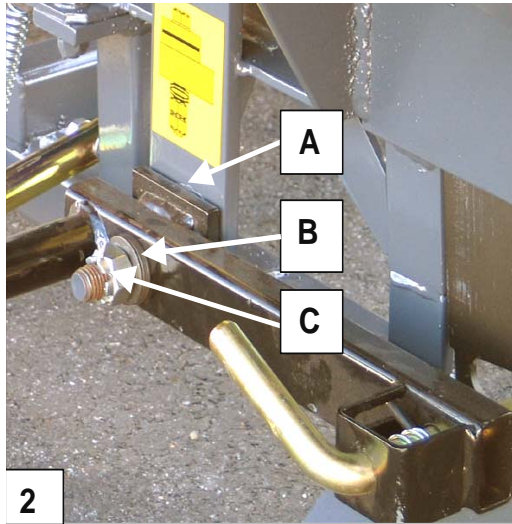

Fig. 2. Installing the adjustment lever for the splitting wedge,
2.3 Installation of the adjustment lever for the splitting wedge (Fig. 2)